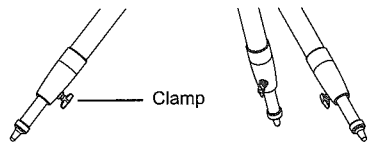

Fig. 1.2a
2. Locate the locking clamps on the legs and turn counter-clockwise to unlock them to extend the tripod legs (Fig.1.2a).